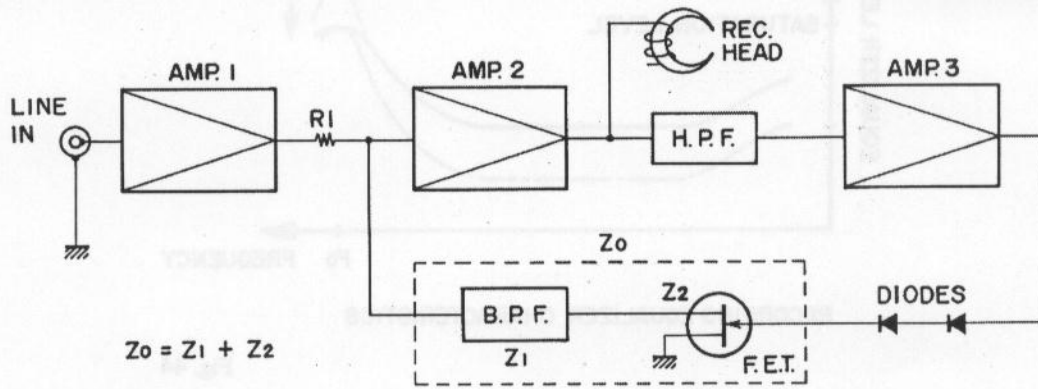

Fig. 41 A.D.R. BLOCK DIAGRAM
1. The A.D.R. Block Diagram is as shown in Fig. 41, and A.T.T. is comprised of R1 and Z0.
7. At this time, as shown in Fig. 41, the Amp. 2 output passes the H.P.F., is amplified at Amp. 3, and this output is rectified at the diodes.